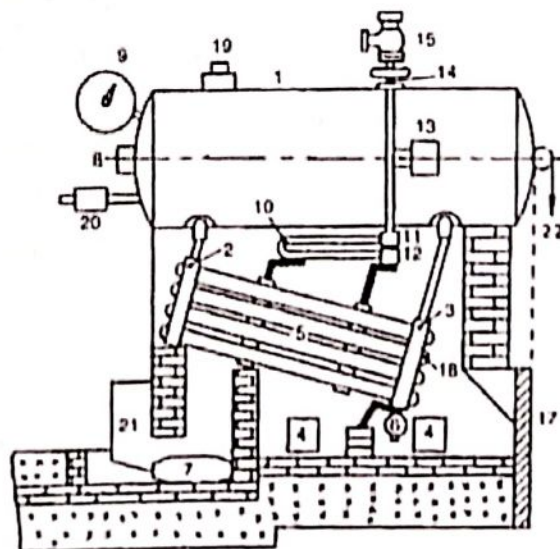

Fig. 3.2 Babcock and Wilcox Boiler
It is a straight tube, stationary type water tube boiler, as show in Fig.3.2 It consist of a stem and water drum (1). It is connected by a short tube with uptake header or riser (2) at the back end.